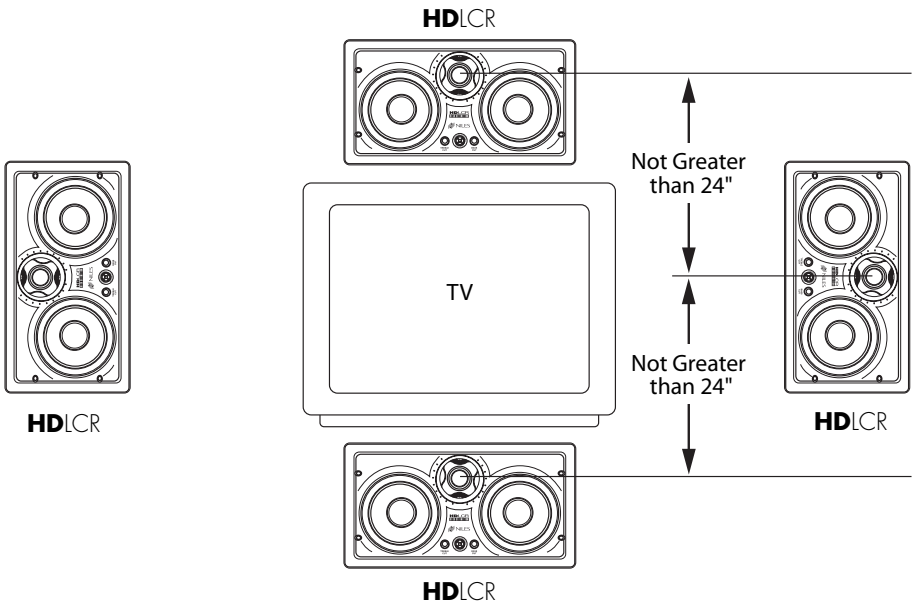

Figure 3. If the HDLCR is placed above a TV, install the speaker with the tweeter up. If it is placed below a TV, install the HDLCR with the tweeter down.
As for placement height, place front left and right speakers on either side of the picture source so that their tweeters are not more than 24 inches above or below the center-channel speaker's tweeter (see **Figure 3** on page 8).
- *In a typical installation, place the HDLCR horizontally, directly above the television or projection screen. Try to insure that the speaker is not placed too high relative to the left and right speaker, as shown in **Figure 3**.*